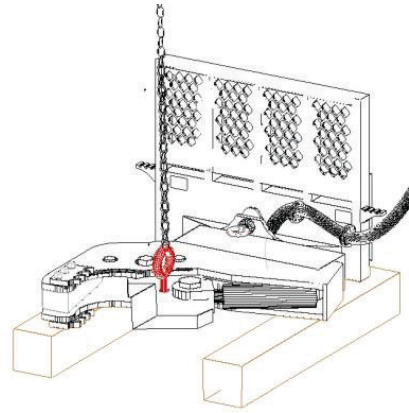

FIGURE 3.4A SHEAR PLACED ON TIMBERS WITH LIFT EYE ATTACHED.
2. Lift the shear with the skid steer or an overhead hoist and support the shear on timbers. (see figure 3.4a on next page)
3. Connect a lifting eye through the blade and secure with a nut underneath the blade. (see figure 3.4a on next page)